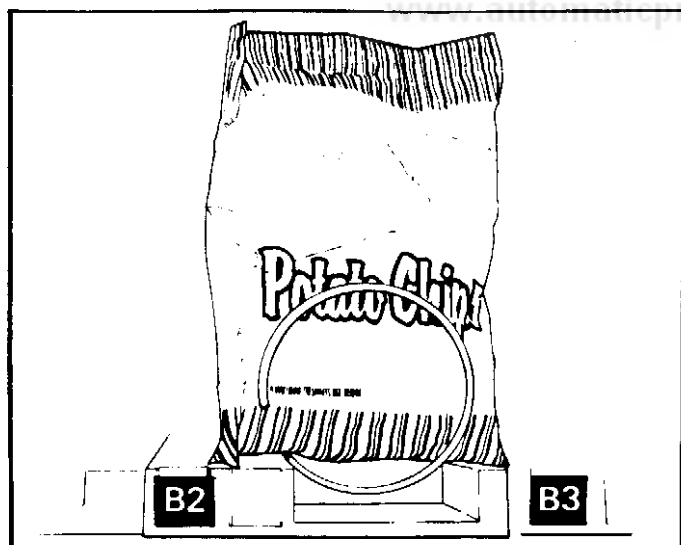
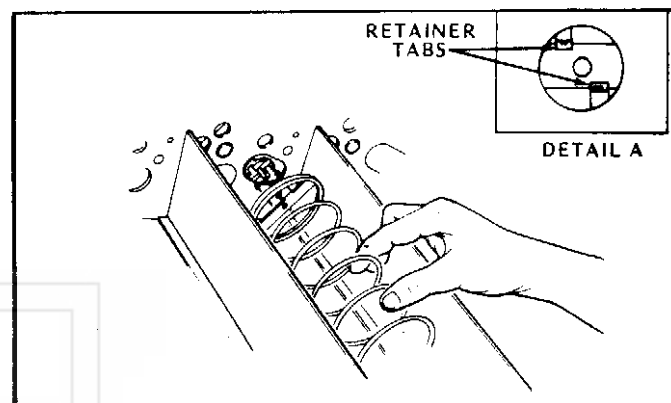
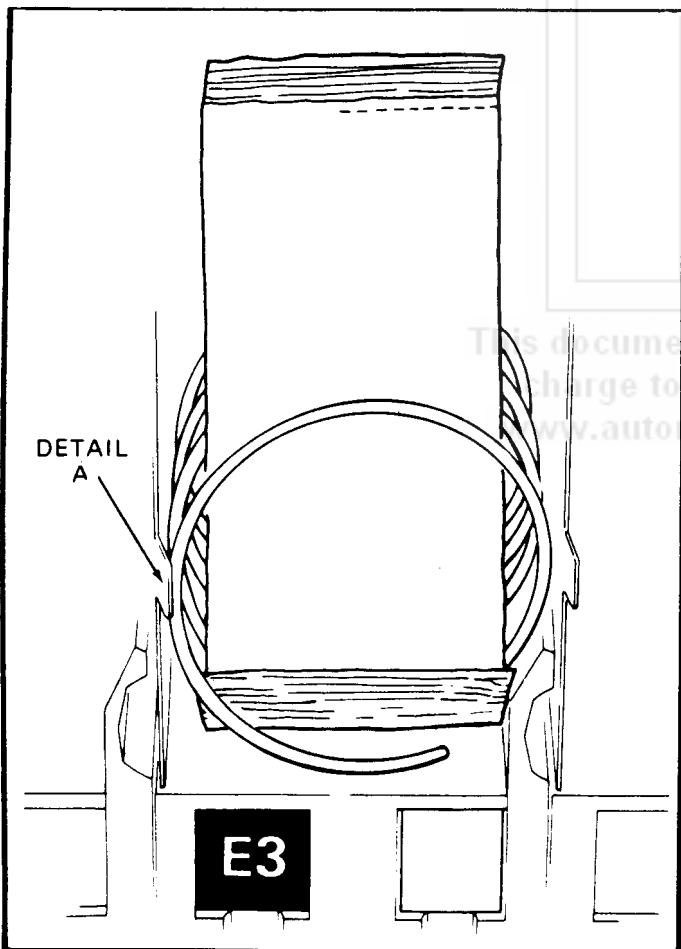

Figure 2. PLACEMENT OF PRODUCT ON MAIN PRODUCT SNACK SHELVES AND FRONT END POSITION OF SPIRAL.
Figure 3. REMOVING AND INSTALLING SPIRAL.
Figure 5. **PLACEMENT OF PRODUCT ON MAIN PRODUCT CANDY SHELVES AND FRONT END POSITION OF SPIRAL.**
IMPORTANT: Product must not be forced into the spiral spaces but should fit freely. If the product is too tight, use a larger pitch spiral. The bottom of the product should be placed on top of the spiral wire that rests on the shelf surface (see Figure 2). The width of the product must be greater than the diameter of the snack spiral. If it is smaller, the product may fall through when it is in the front, ready to vend position.
5. **REMOVAL OF SPIRAL:** To remove the spiral, grasp the spiral near the rear of the shelf and pull forward. To install a spiral, align the hole in the cross strap, at the rear of spiral, with the motor shaft. (See Figure 3). Be sure the front end of the spiral is positioned properly (with the front end of spiral pointing downward on the left side) (see Figure 2); align strap between retainer tabs on spiral retainer (see Detail A, Figure 3) attached to motor shaft, push spiral to rear until both tabs snap over strap (see Figure 3). Give a light forward pull on front of spiral to check if it is locked in place.
7. **LOADING MAIN PRODUCT CANDY SHELVES:** The 10-selection (candy type) shelves are loaded similar to the 5-selection shelves except that the bottom of the product sits on the shelf in front of the spiral wire (see Figure 5) that rests on the shelf. These products must also fit properly in the spiral space; do not force product into spiral.
These spirals are removed and installed the same as the large spiral (see Figure 3), except that the front end position is different (approximately 5 o'clock) (see Figure 5) and the front left side of the spiral must be behind the small tab located on the left side of the product space side wall (see Figure 5, Detail A).